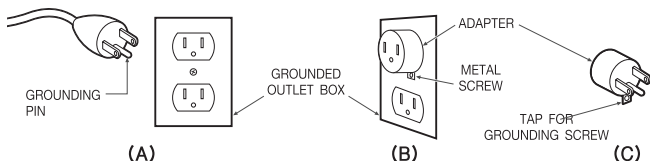

Figure 1.
2. This product is for use on a nominal 120 V circuit, and has a grounding plug that looks like the plug illustrated in sketch A in Figure 1. A temporary adapter, which looks like the adapter illustrated in sketches B and C, may be used to connect this plug to a 2-pole receptacle as shown in sketch B if a properly grounded outlet is no available. The temporary adapter should be used only until a properly grounded outlet (sketch A) can be installed by a qualified electrician. The green colored rigid ear, lug, and the like extending from the adapter must be connected to a permanent ground such as a properly grounded outlet box cover. Whenever the adapter is used, it must be held in place by the screw.